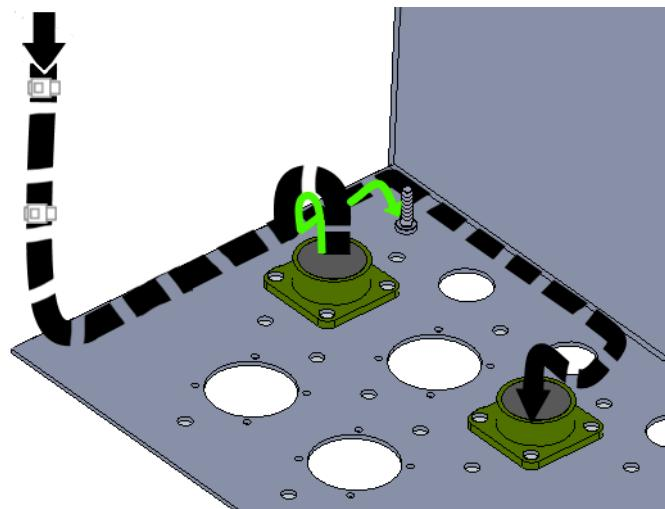

Figure 2 Form Drip Loop and Route Harness Wires
Step 4. Form a drip loop and route the harness wires to the back of the cabinet and to the left toward the 14-pin connector. See *Figure 2*.